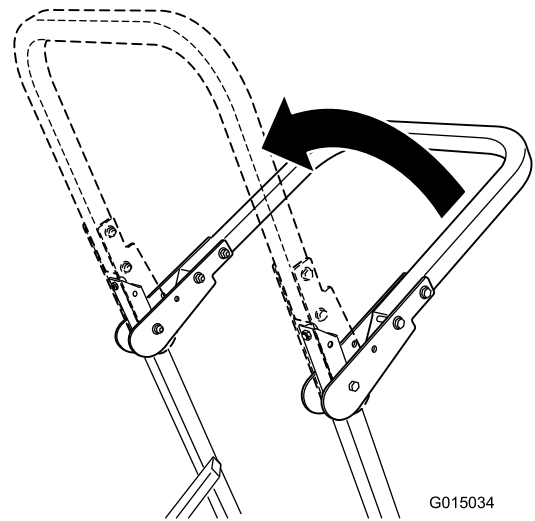

Figure 9
2. Raise the roll bar to the upright position (Figure 9).